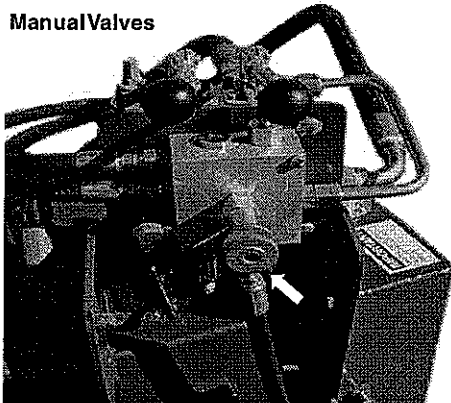

figure 33
3. Loosen the jam nut and adjust the barrel end valve (figures 33 and 34), turning it in for a lighter pattern or out for a heavier pattern. Repeat this step until the brush makes an 8 in. (203 mm) pattern.